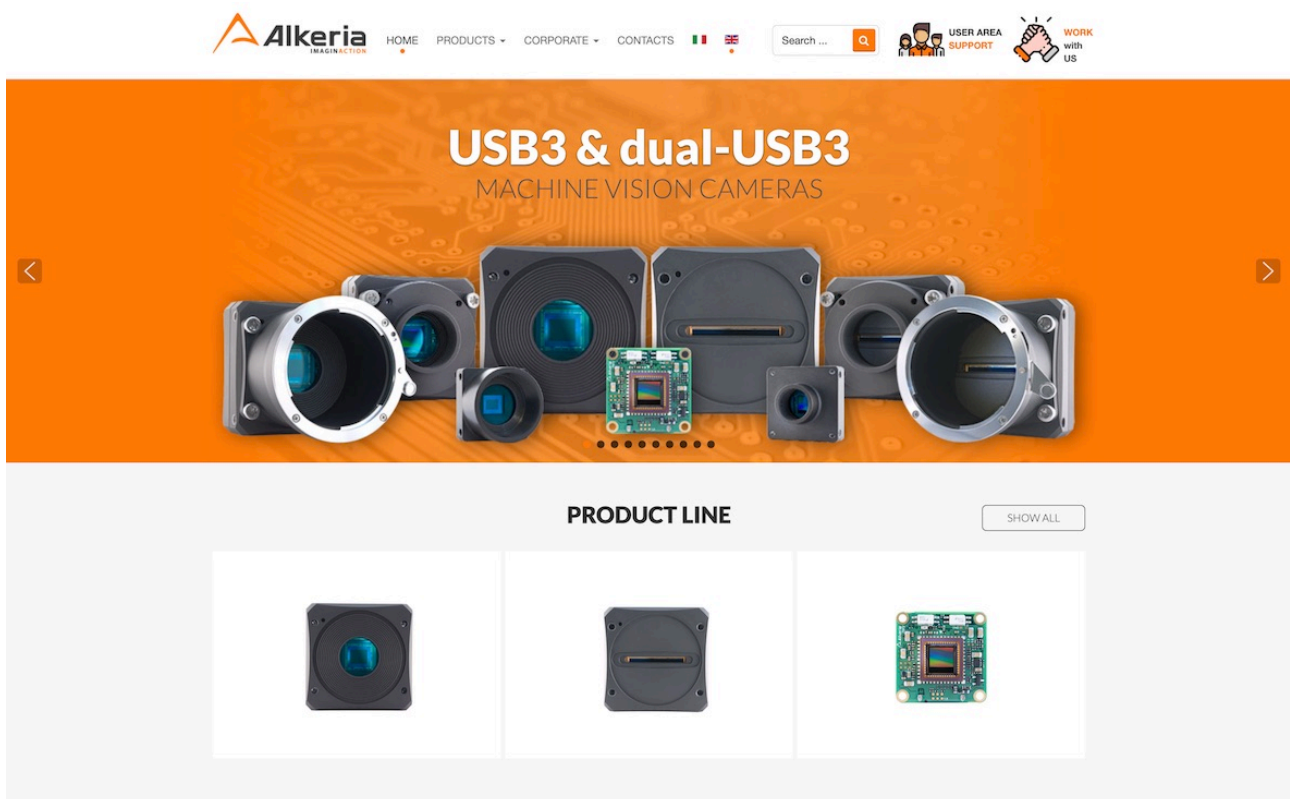

Figure 1.3: Alkeria website
Step 1: Go to our website www.alkeria.com (Figure 1.3)